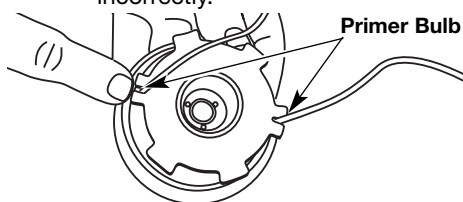

Fig. 19
12. Insert the ends of the line into the two holding slots (Fig. 19).